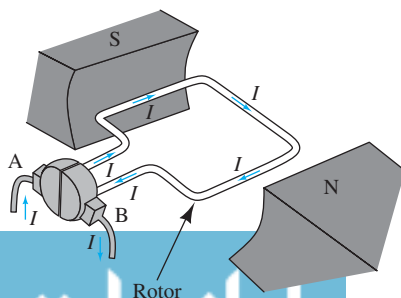

FIGURE P13.1 Rotor for Problem 13.1.
- 13.1** (B) If the current always flows from A to B (see Figure P13.1), briefly explain the mechanism of this motor.
- 13.3 (B) For a simple DC motor setup (see Figure P13.1), explain one way to configure the motor such that the rotor will always rotate in the same direction.